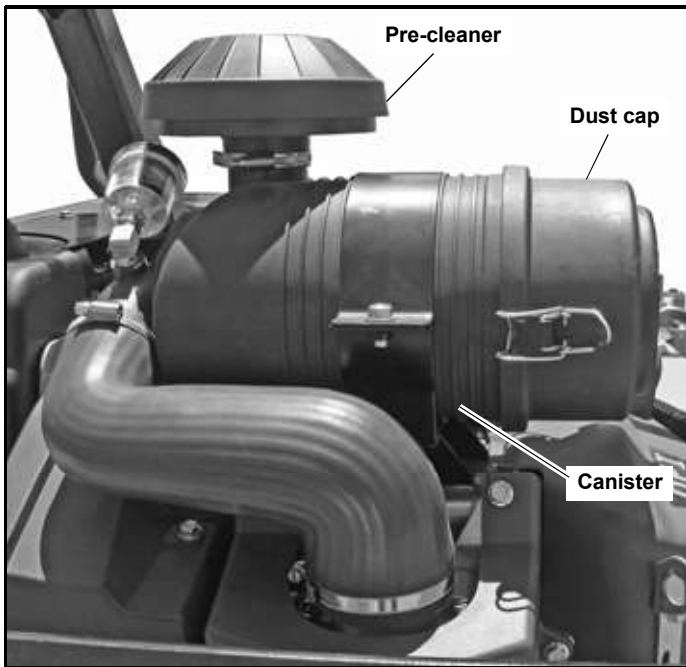

Figure 4-6
A specially designed dry filter is standard equipment on these mowers and supplies clean combustion air to the engine. Figure 4-6
3. Reinstall the dust cap. Make sure it seals all the way around the air cleaner body, then tighten the clamps. Figure 4-6